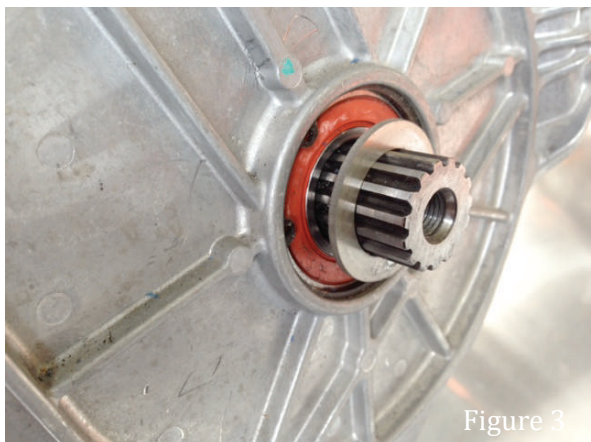

Figure 3
4. Install .075" stainless steel washer on bottom shaft. See fig 3.